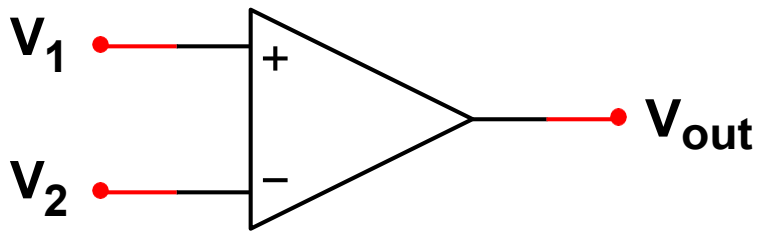

Figure P.6 – Buffer
1. Using **Table 1** and **Figure P.6**, design a **Comparator** that has the following specifications: